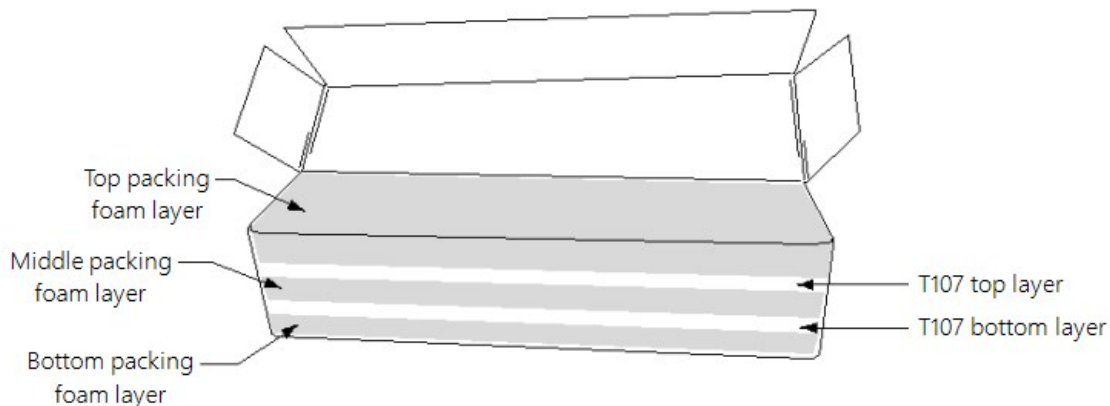

FIGURE 3-2. Shipping box packaging
6. Lift up the cardboard flaps exposing the top layer of foam (FIGURE 3-2 (p. 3)).